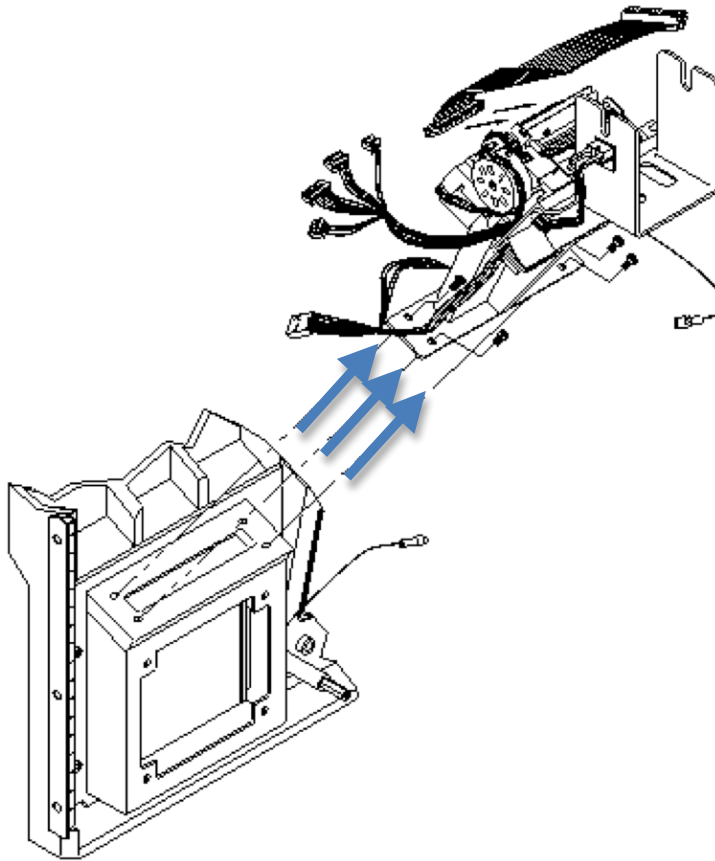

Figure 4: Uninstalling Current C/OPT Receipt Printer Option
- Step 4.** Unscrew the printer's four mounting screws. See Figure 4 below.